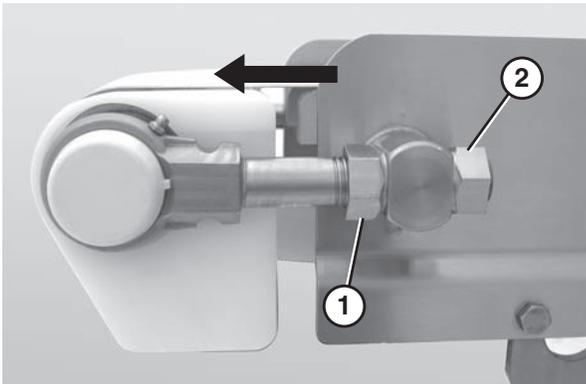

Figure 51
2. Turn the front nuts closest to the tail (**Figure 51, item 1**) clockwise in order to increase tension on the belt.
3. Tighten the back nuts (**Figure 51, item 2**) to secure the tail.
1. Loosen the back nut (**Figure 51, item 2**) on the idler tail shaft that needs to be adjusted.
2. Tighten the front nut (**Figure 51, item 1**) on the idler tail shaft to adjust the belt tracking.